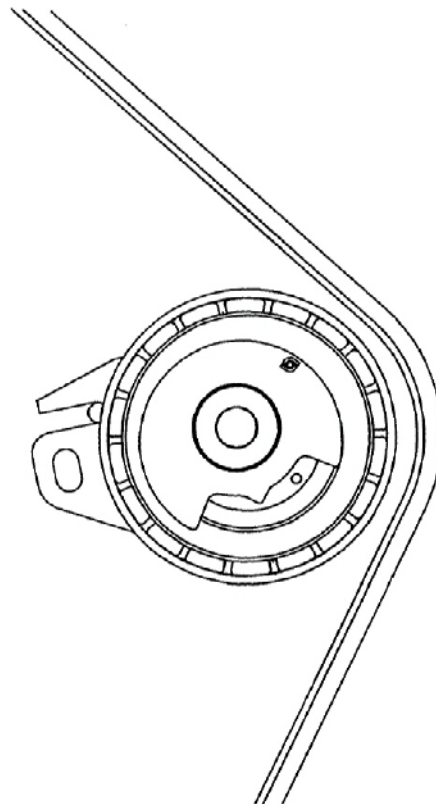

Figure 2: Belt Installation Position.
5. Slide the tensioner to the farthest left for easier routing of the timing belt and hand tighten the M8 Mounting Nut (See Figure 2).